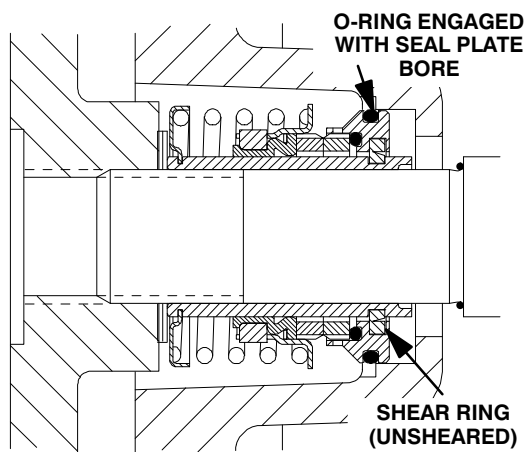

Figure 6. Seal Partially Installed
Clean and inspect the impeller as described in **Impeller Installation and Adjustment**. Install the full set of impeller shims (3) provided with the seal, and screw the impeller onto the shaft until it is seated against the seal (see Figure 6).